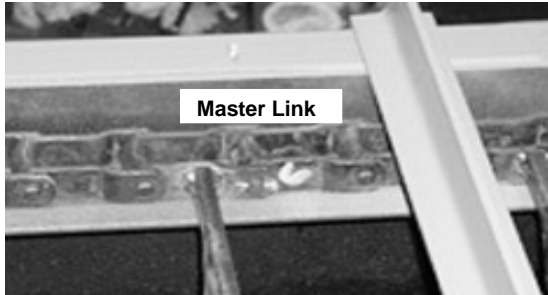

FIG. 20 Drag Chain Master Link
1. Jog the drag chain until the master link, Figure 20 is in an accessible location.
4. Remove the cotter pin from the master link either side of the drag chain assembly (Figure 20), then remove chain pins to disconnect the drag chain assembly.